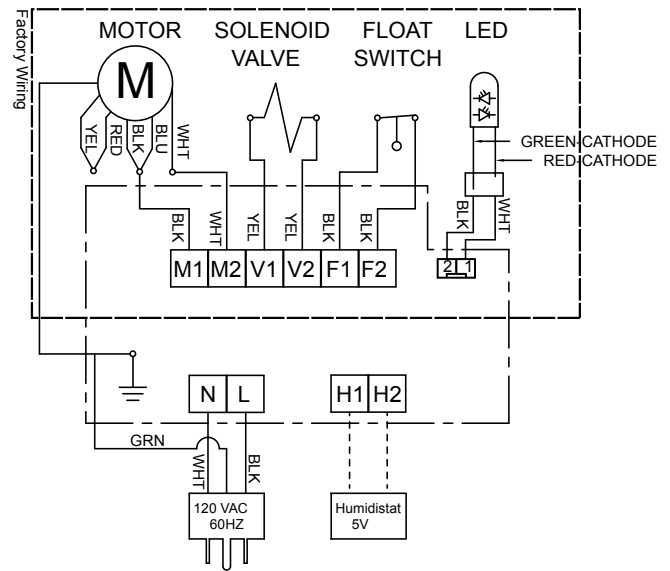

Figure 7
- US models are factory equipped with a 120 VAC line cord attached to the unit. This must be connected to an electrical outlet that is protected for short-circuit and overload according to national, state and local codes/standards. It is the installers responsibility to ensure compliance with these codes. It is not necessary to operate this unit from a dedicated circuit. See Figure 7.